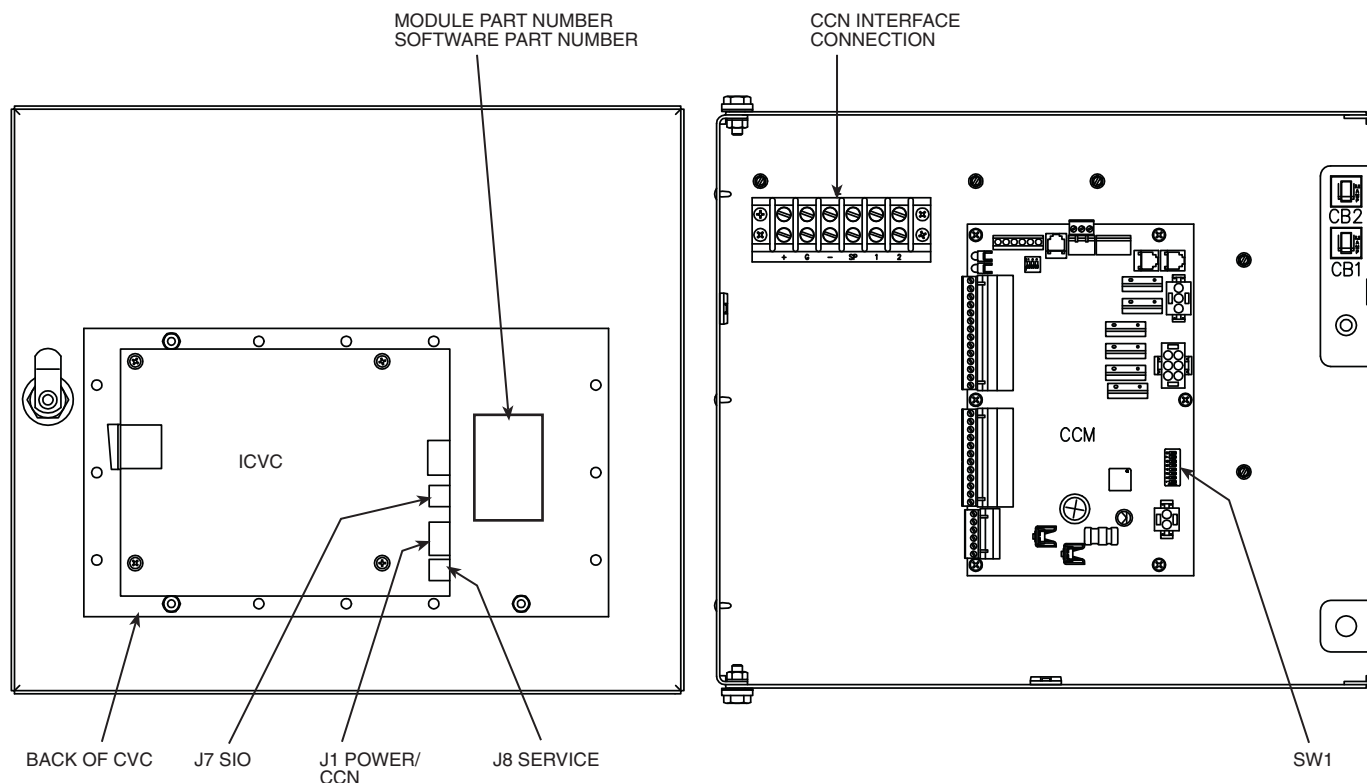

Fig. 52 — Rear of ICVC (International Chiller Visual Controller)
2. If a green LED is on continuously, check the communication wiring. If a green LED is off, check the red LED operation. If the red LED is normal, check the module address switches (SW1) (Fig. 52 and 53). Confirm all switches are in OFF position.